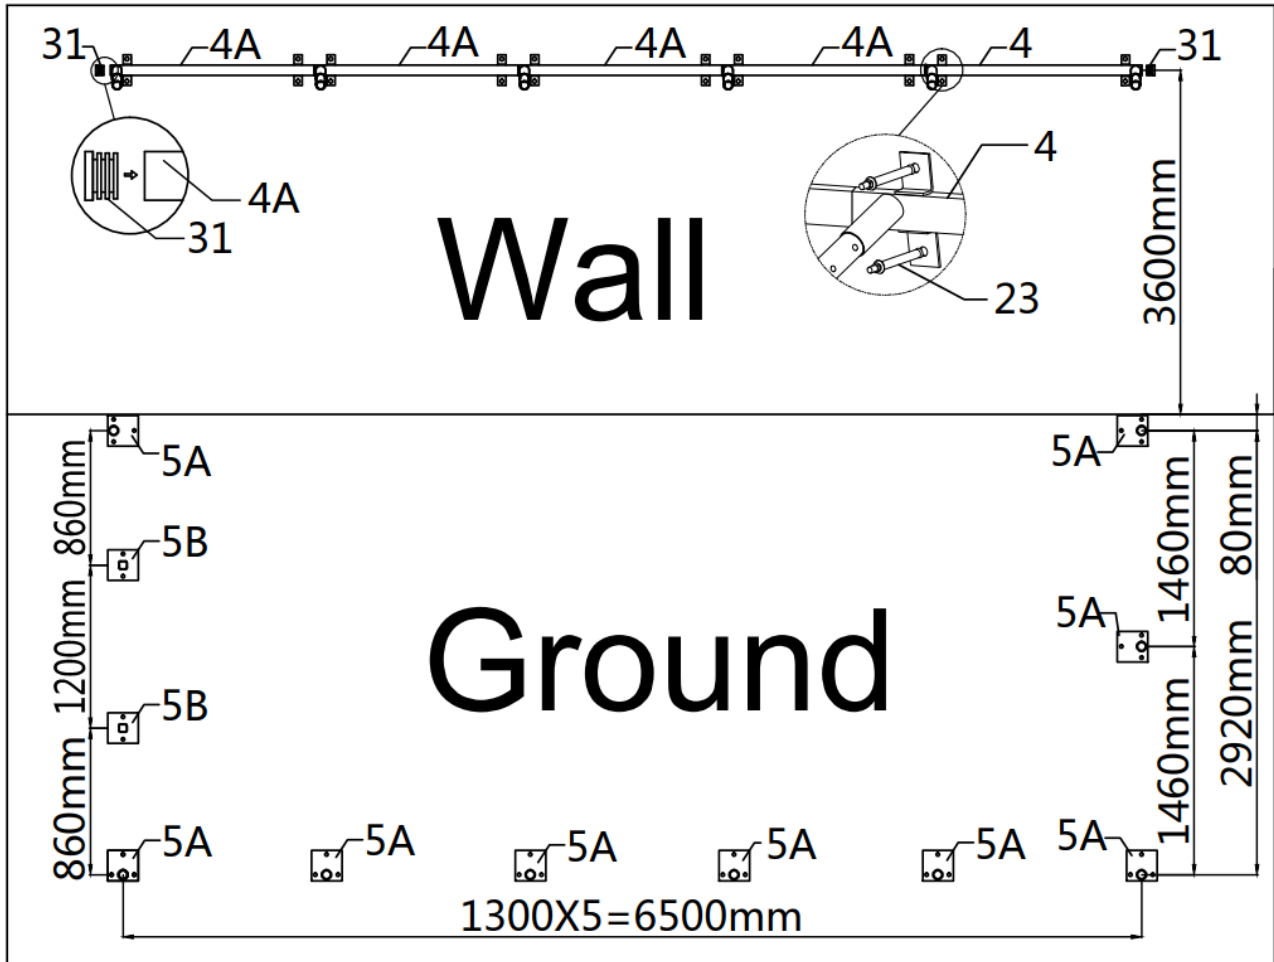

Figure 1
- Install the top wall mounted tube (#4,#4A) on the wall and install the base plate on the ground perpendicular to it (#5A,#5B) (refer to figure 1)
- (1) Top wall mounted tube (#4)
- (4) Top wall mounted tube (#4A)
- (9) Base plate (#5A)